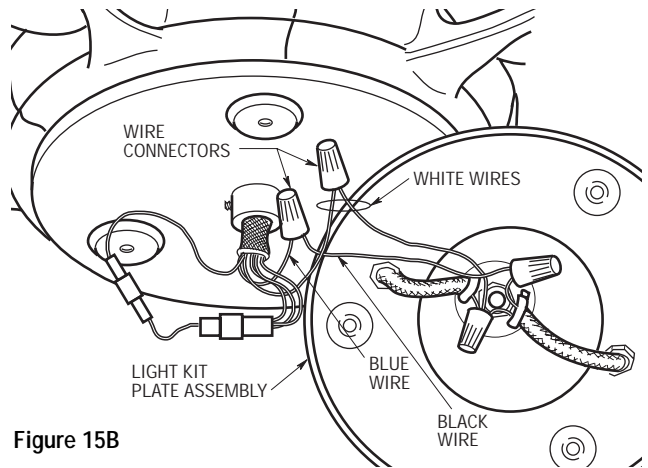

Figure 15B
- 24. Securely connect the black wire from the light kit plate assembly to the blue wire from the motor shaft using a wire connector (supplied) (Figure 15B). Connect the white wire from the plate assembly to the white wire from the motor shaft using a wire connector (supplied).